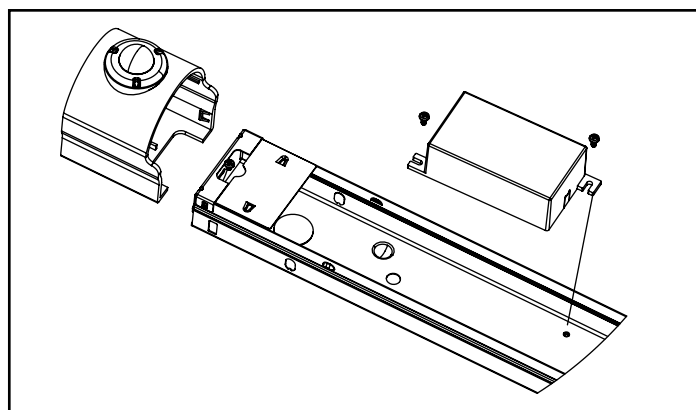

Figure 1
2. Install the sensor control module with provided hardware at mounting location shown in Fig 1.